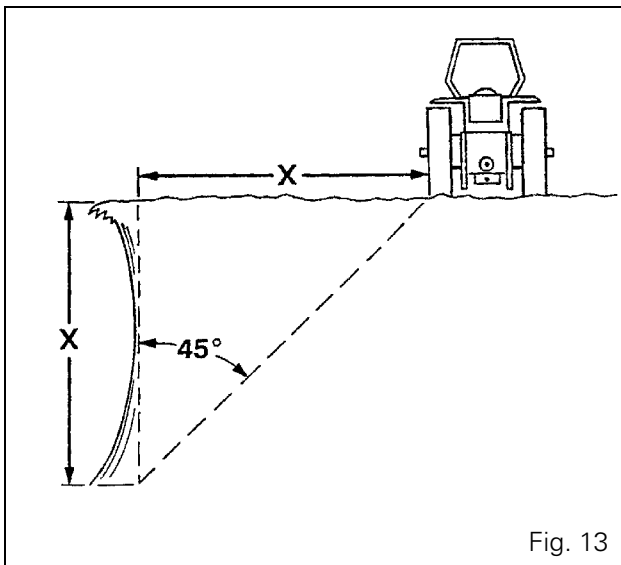

Fig. 13
Fig. 13: Do not operate near the edge of ditches or banks. The distance from the edge should always be equal to or greater than the height of the bank, to prevent it from collapsing.
- Avoid steep slopes whenever possible. If this is not possible, avoid holes and dips when driving downhill. Avoid stumps, stones, bumps and raised areas when driving uphill. Keep the tractor behind the shear line when working close to ditches or banks (Fig. 13). Avoid ditches, embankments and river banks which might give way.